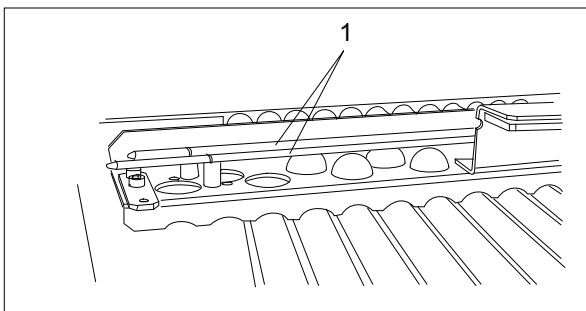

Fig. 78 Ball rail
1. Bend the ball hold-down rods (Fig. 78/1) to the side.